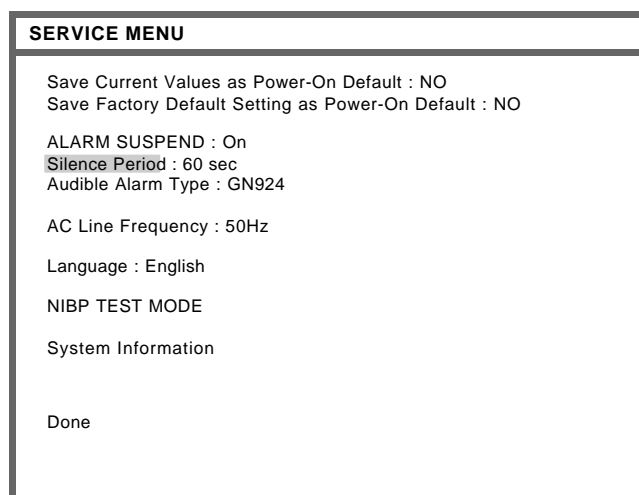

Figure 6. Service Menu
The purpose of the Service menu (Figure 6, Table 9) is to allow the authorized user to create a Power-on default for each setting in the YM5500. Power on defaults are the settings in effect each time the YM5500 is powered on. Once the Service menu is entered, physiological monitoring is terminated. The screen layouts do not display any information associated with normal monitoring operation. Use the following procedure to configure the Service Menu for the YM5500 monitor (also see **Using the Monitor** section, page 35 of the operator's manual):
8. The Service Menu will now be present. The available Service Menu items are explained in Figure 6 and Table 9. Make changes to these menu items as desired by rotating and pressing the knob.